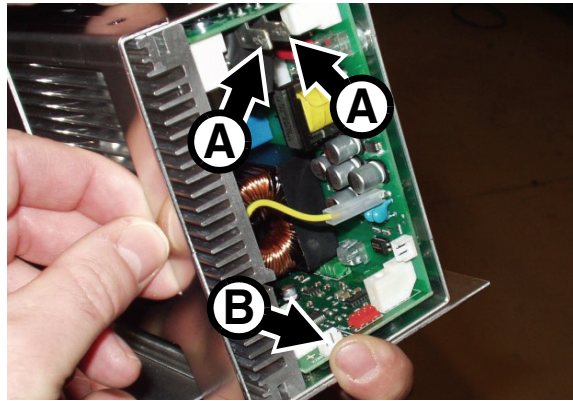

Figure 8
- See Figure 8. Lift the ballast up slightly and disconnect the two ignitor leads (one blue, one black) from their spade connectors **A**. Then disconnect the reduced lamp power (dimmer) circuit connector from connector X200 **B**.
NB: Figure 8 shows the ballast completely removed from the fixture to make it easier to see the connectors.